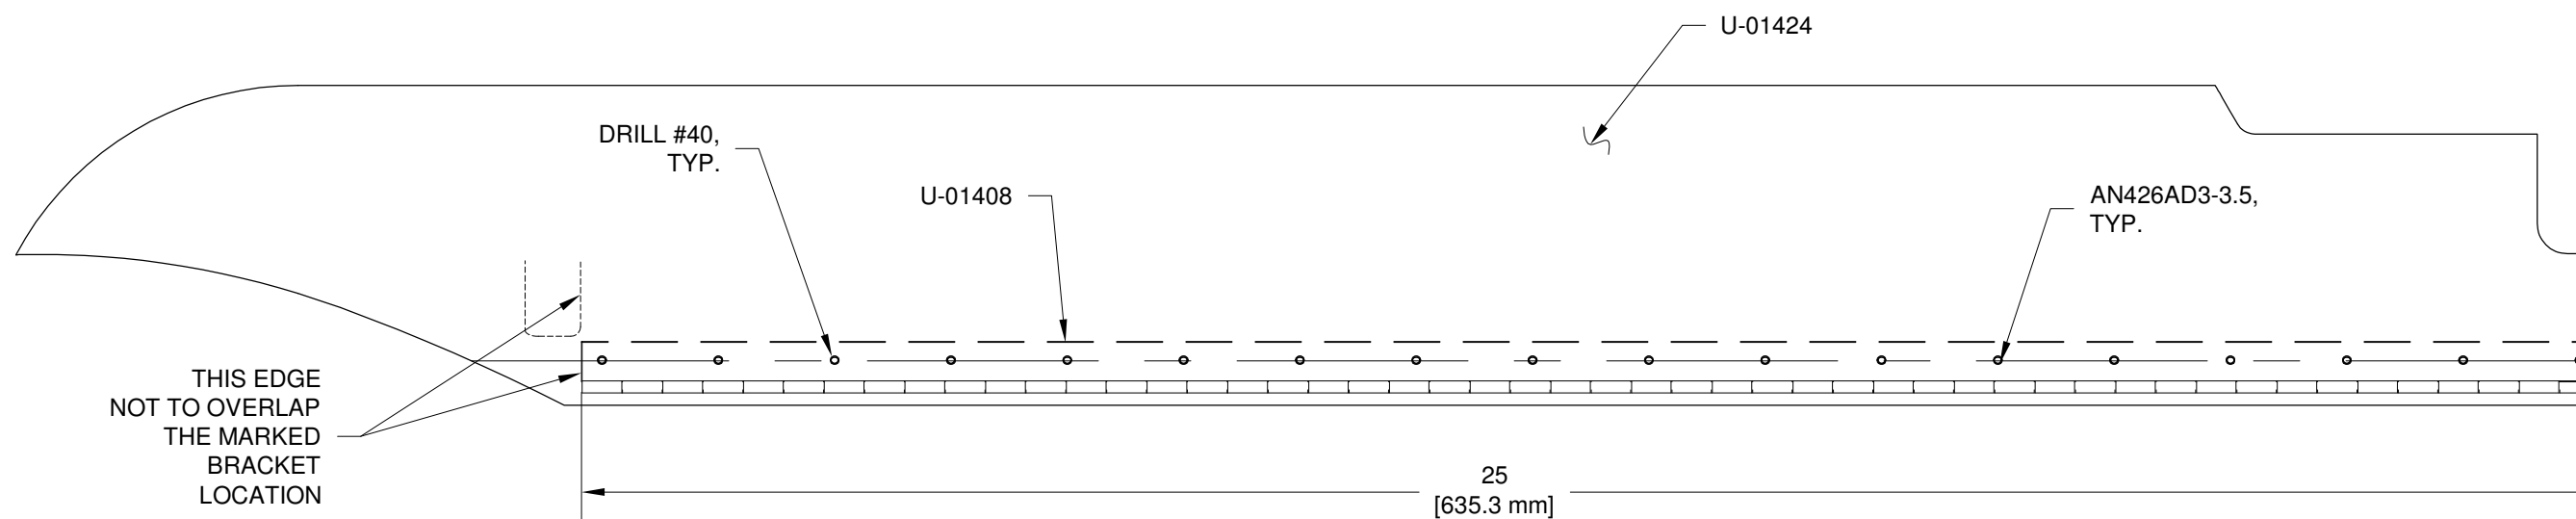

FIGURE 1: DRILLING THE NOSE GEAR LEG FAIRING
Step 1: Bend one end of the pin to approximately 3/4 [19.1 mm] 90° leg to keep the hinge pin from sliding when installed. See Figure 1.